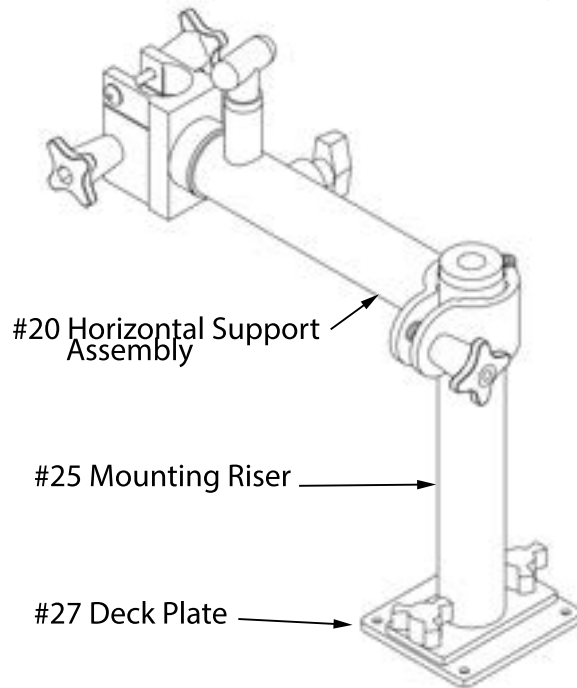

FIGURE 1
STEP 1. Assemble # 25 Mounting Riser to #27 Deck Plate and # 20 Horizontal Support Assembly # 20 to Mounting Riser as seen in Figure 1.